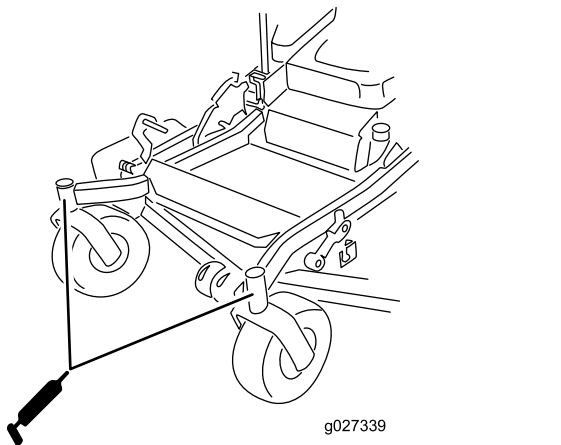

Figure 43
11. Install the hex plug and dust cap (Figure 43).
12. Grease the caster-wheel bearings (Figure 43).